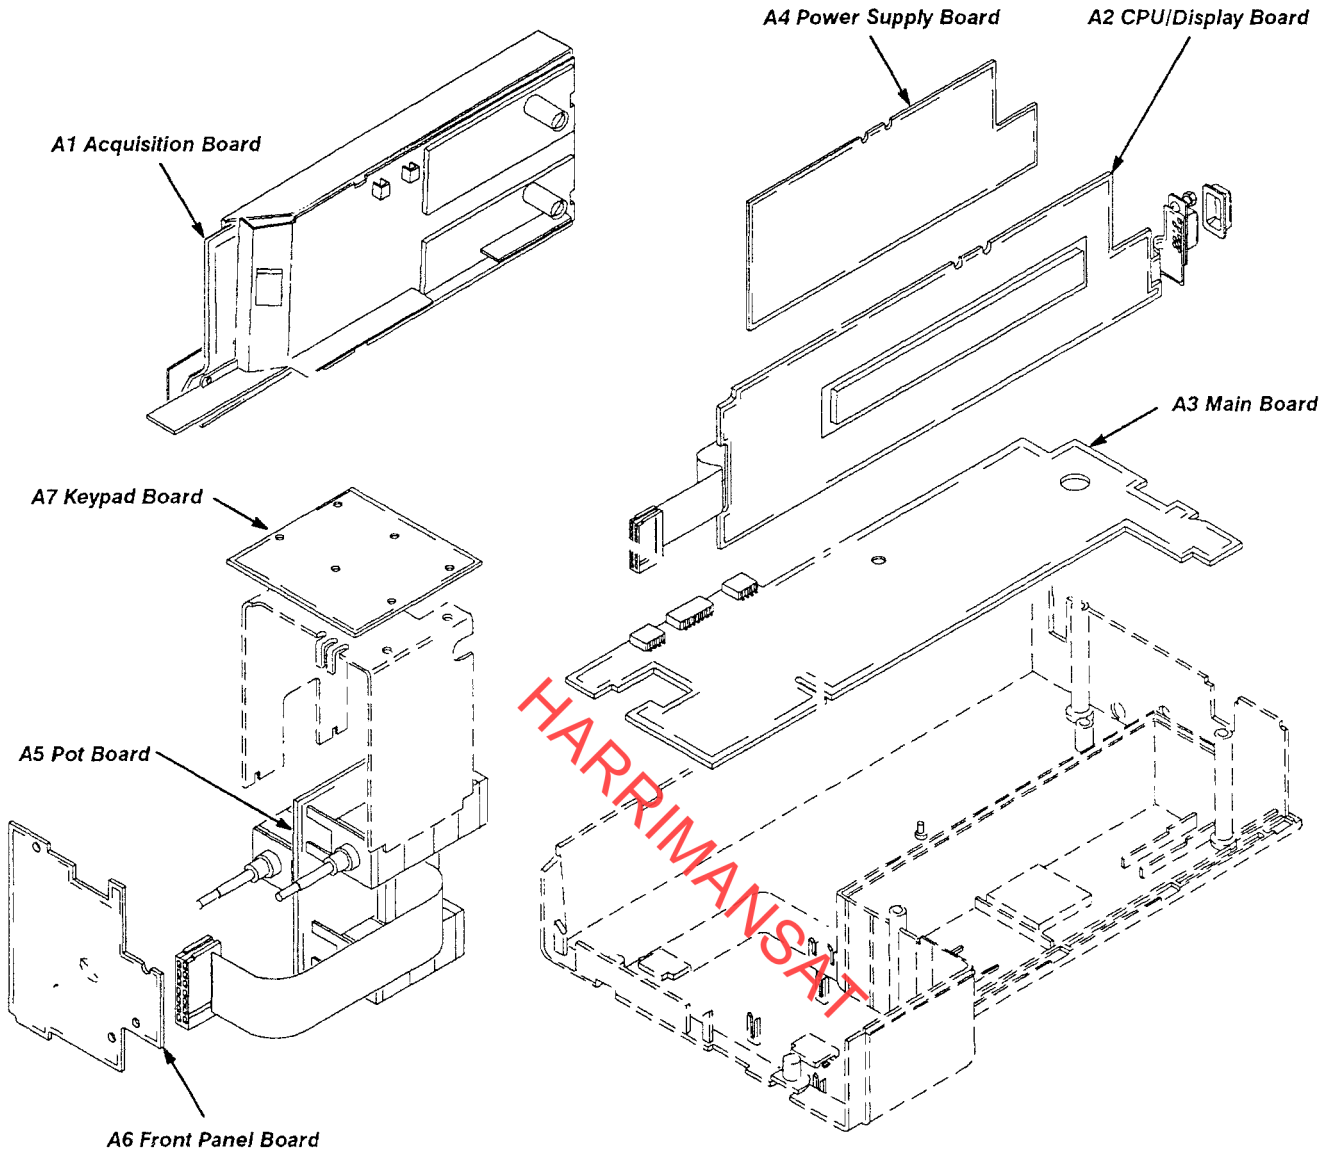

Figure 6-1: Circuit Board Identification
- A circuit board module locator diagram (see Figure 6-1) for identifying the circuit boards in this oscilloscope.
Figure 6-1 identifies and shows the location of the oscilloscope circuit boards. The procedure *Front and Top Case* on page 6-13 provides access to the circuit boards.
The Front Panel board removal procedure separates the Front Panel board from the Front case. Refer to Figure 6-1 during the following procedure.